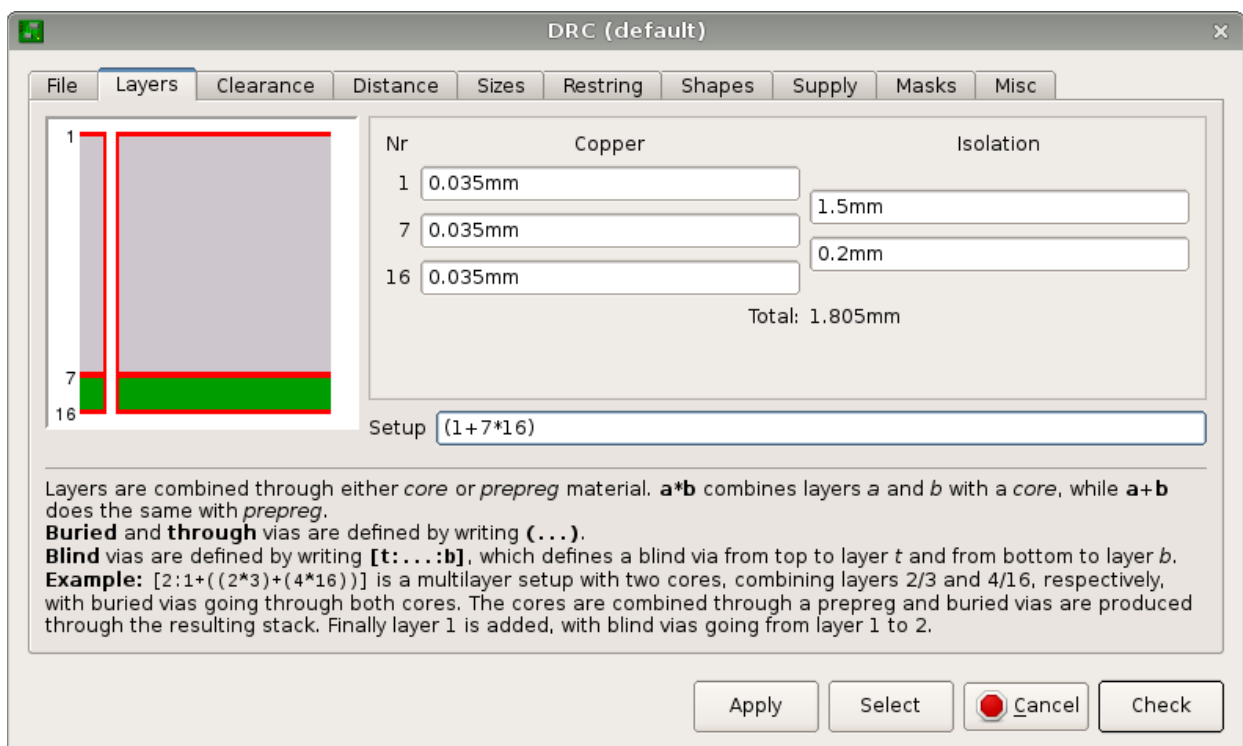

Figure 36: DRC Dummy Layer
1. Start the DRC, change into section “Layers” and invent a dummy layer as shown in Figure 36. The layer number, in our case #7 - does not matter. The layer **must not** contain any object. Even if your board is multilayer, just create another layer. The number real usable layers with this workaround is limited to 15. Of course your license must allow this step.